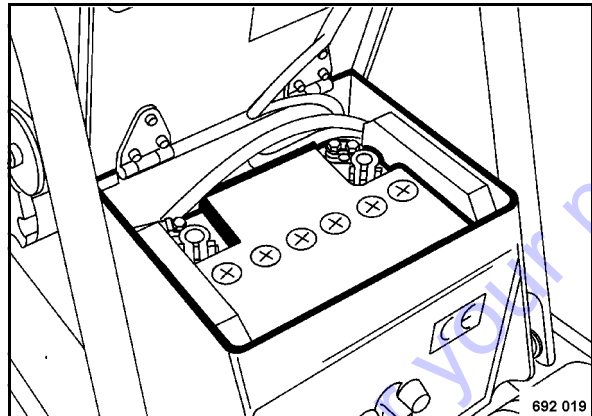

Fig. 39
- Take the battery (Fig. 39) out and clean the battery compartment.